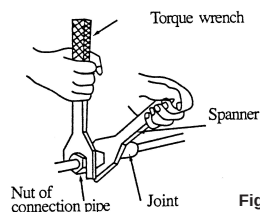

Fig.7
2.Align the joint counter of connecting pipe with the proper indoor and outdoor joint conic surfaces,tighten the connecting nut manually.Then,make it secure with a wrench as shown Fig.7 ,applying to above torque Table 1.